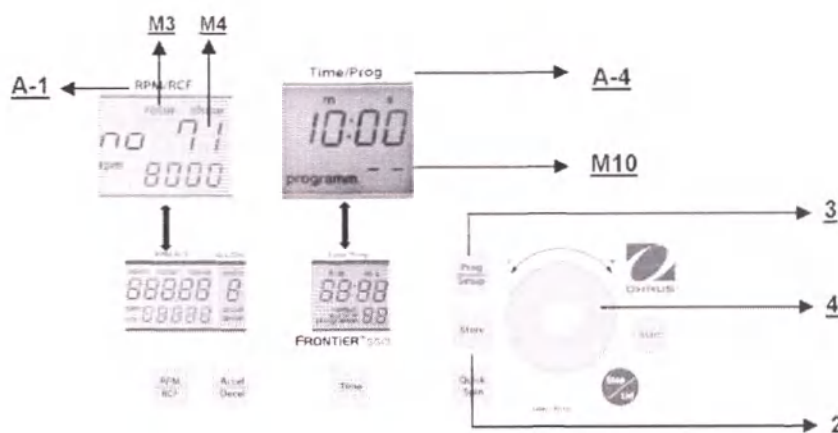

Figure. 23
To recall stored programs press the key **"Prog/Setup"** (3) (refer to figure 23) while the lid is already closed. Inside the display **"Time/Prog"** (A-4), **"programm xx"** (M10) appears. The desired program number can be pre-selected with the adjusting dial (4).
To leave the program mode just press the key **"Prog/Setup"** (3) (refer to figure 23). Then inside the display **"Time/Prog"** (A-4) the word **"programm--"** (M10) appears.